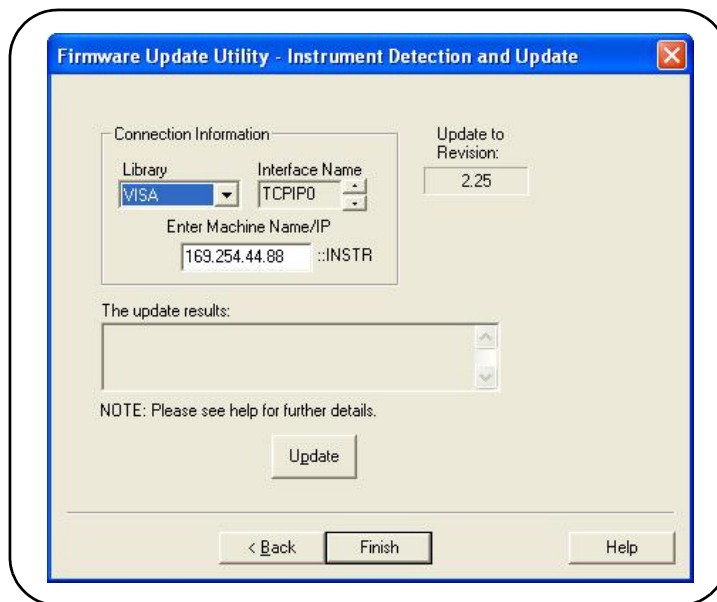

Figure 3-10 Specifying the Instrument Address.
- 1 From the installation directory or 'start' menu, start the utility and select 'Next' until the window shown in Figure 3-10 appears.